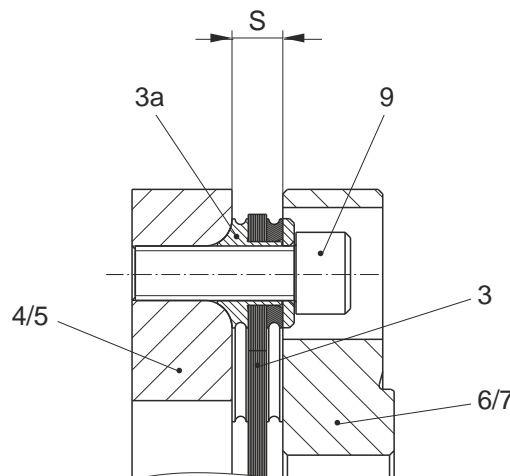

Fig. 5
The disk pack (3) is always to be inserted so that the collar bushing radius (Item 3a, Fig. 5) lies in the grooves of the flanges (Items 6 / 7), the sleeves (4) or the connection plate (5).
In order to prevent axial distortion of the disk packs, the dimension "S" (Fig. 5, acc. Tables 1 and 2) must be maintained with aligned angular and radial shaft misalignments.